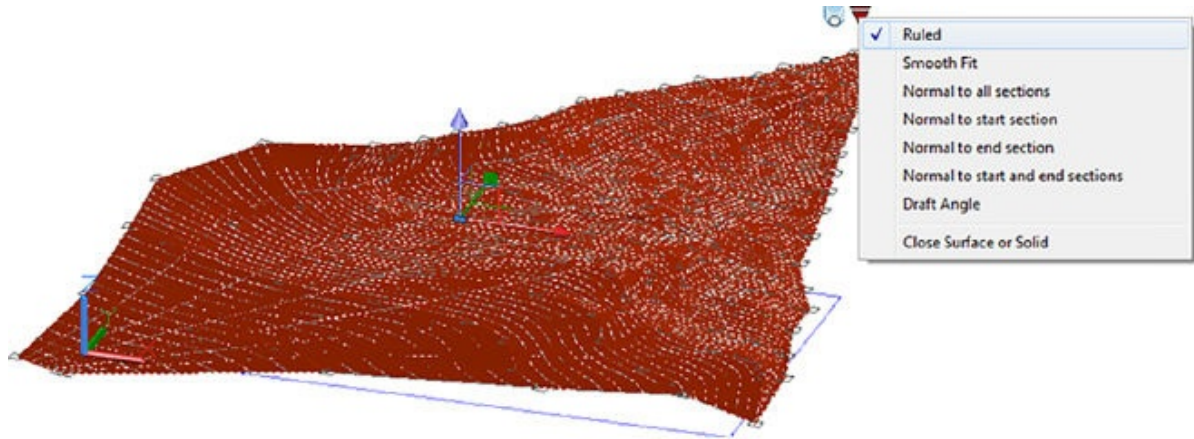

FIGURE 21.52 The surface showing the multifunction grip menu with the Ruled option selected
3. Select the Ruled option from the menu. The surface changes slightly to conform to the new Ruled surface option (see Figure 21.52). Press Esc to make sure that you don't have any objects selected.